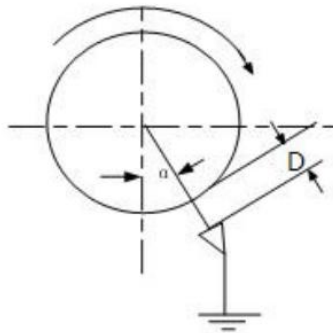

Figure 3
Distance between (3), mill and audio receiver $50 \leq D \leq 100\text{mm}$ (See Figure 3)